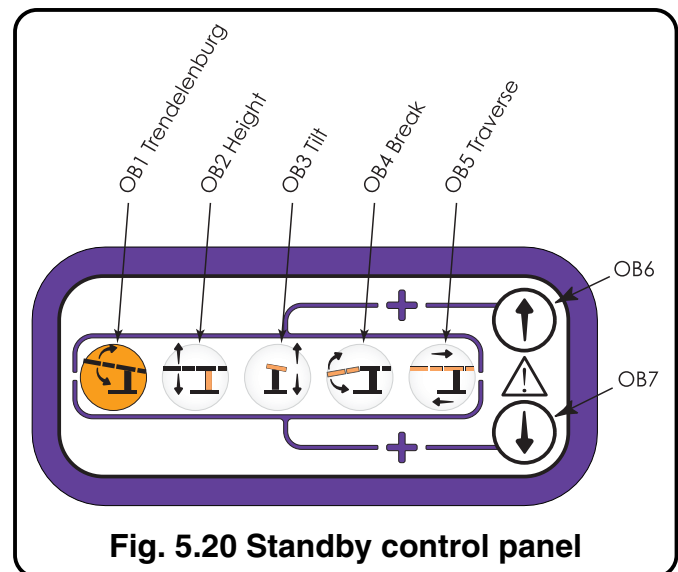

Fig. 5.20 Standby control panel
The standby control panel is located on the side of the column (item 12, Fig. 2.2). The panel has five function buttons (OB1 to OB5, see Fig. 5.20) and two direction buttons (OB6 and OB7, see Fig. 5.20). The motion of the function button is described by its graphical symbol (symbols are shown and detailed in section 2.2.4).
To operate the tabletop from this panel select a required function by 'pressing and holding' a function button (i.e. OB1 to OB4, Fig. 5.20) and then select a direction for this function by 'pressing and holding' a direction button (i.e. OB6 or OB7, Fig. 5.20).
- OB1** Trendelenburg - Press and hold this button, then press required direction button to rotate the tabletop in the Trendelenburg (button OB6, Fig. 5.20) or reverse Trendelenburg direction (button OB7, Fig. 5.20)
- OB2** Height - Press and hold this button, then press required direction button to change the height of the tabletop (button OB6, Fig. 5.20 is for Height up; button OB7, Fig. 5.20 is for Height down).
- OB3** Tilt - Press and hold this button, then press the required direction button to tilt the tabletop (button OB6, Fig. 5.20 is for Tilt down on the left; button OB7, Fig. 5.20 is for Tilt down on the right, when viewed from the long trunk end of the table).
- OB4** Break - Press and hold this button, then press required direction button to move the tabletop in the Break up or Flexion direction (button OB6, Fig. 5.20) or Break down or Extension direction (button OB7, Fig. 5.20).